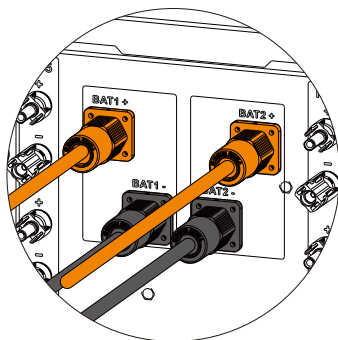

Figure 4.2-5 The battery terminal is connected to the inverter
Step 4. Connect the battery terminal to the inverter. Ensure that the battery polarity is connected correctly, as shown in Figure 4.2-5.